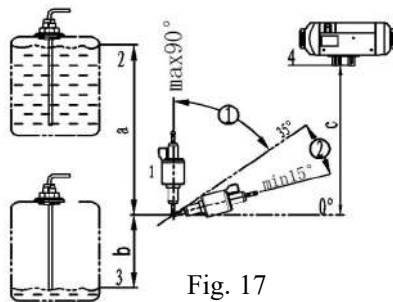

Fig. 17
4.4.1 The fuel pump shall be fixed in automobile with a fuel pump clamp with protective rubber cover. The outlet of the fuel pump shall tilt upwards. The tilt angle can be selected from the range of $15^{\circ}\sim 35^{\circ}$ (as shown in Fig. 17). When conditions permit, the fuel pipe between the fuel pump and the heater shall go up gradually.
4.4.3 Difference in elevation between the level of fuel and the fuel pump as well as the difference in elevation between the fuel pump and the fuel inlet of the heater can produce pressure (or suction) in the fuel pipeline (See Fig.17). So, these dimensions shall conform to the requirements as follows: